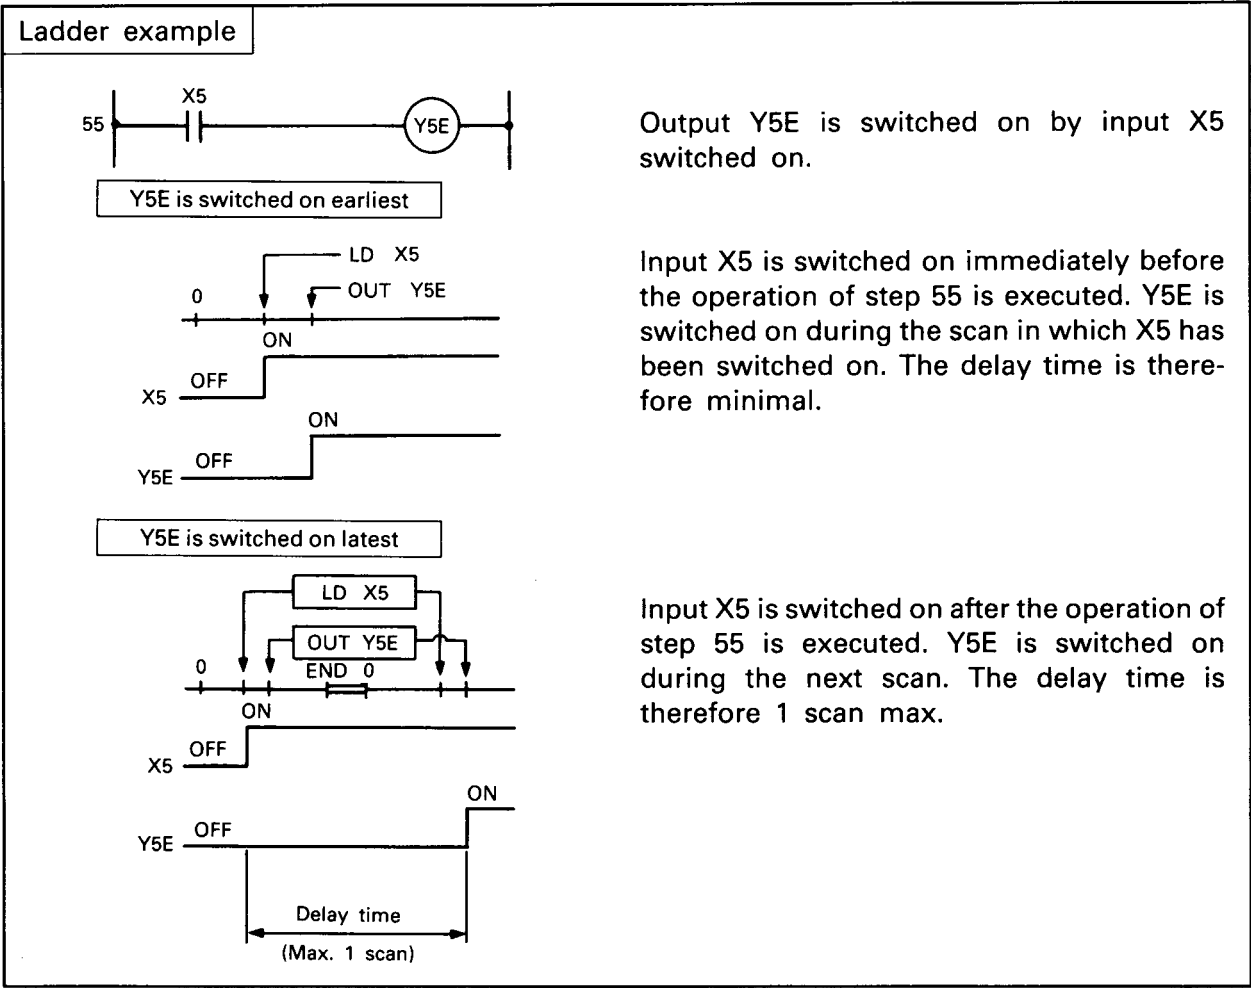

Fig. 3.15 Output Y Change to Corresponding Input X Change
- 2) An output module change lags max. 1 scan behind the corresponding input module change as shown in Fig. 3.15.